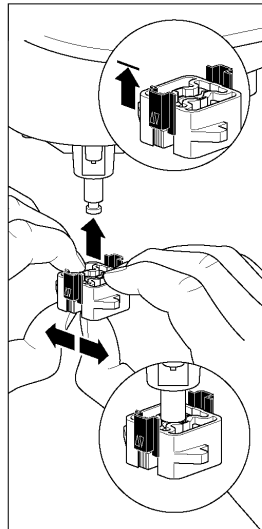

Fig. 5
2. Attach it to the end of the actuator plunger (K). This is done by pushing the bottom of the coupling apart with your thumbs while pressing it onto the actuator plunger. (See Figure 5).
3. Attach bracket (E) onto bottom of NV actuator (A) with 4 provided screws (B).
4. Attach stroke indicators (G) above and below the valve coupling.
5. Screw NV actuator (A) onto valve, and tighten valve bonnet nut (J).
6. Lower plunger (K) using manual override until stem adaptor (I) meets valve coupling. When connected, the valve stem adaptor will be captured by the valve coupling.
7. Slide the coupling lock (C) down in to its locked position.
8. Move sliding stroke indicators (G) to sit above and below lip on valve coupling (H). Stroke indicators are automatically repositioned to the maximum stroke when power is applied to actuator.